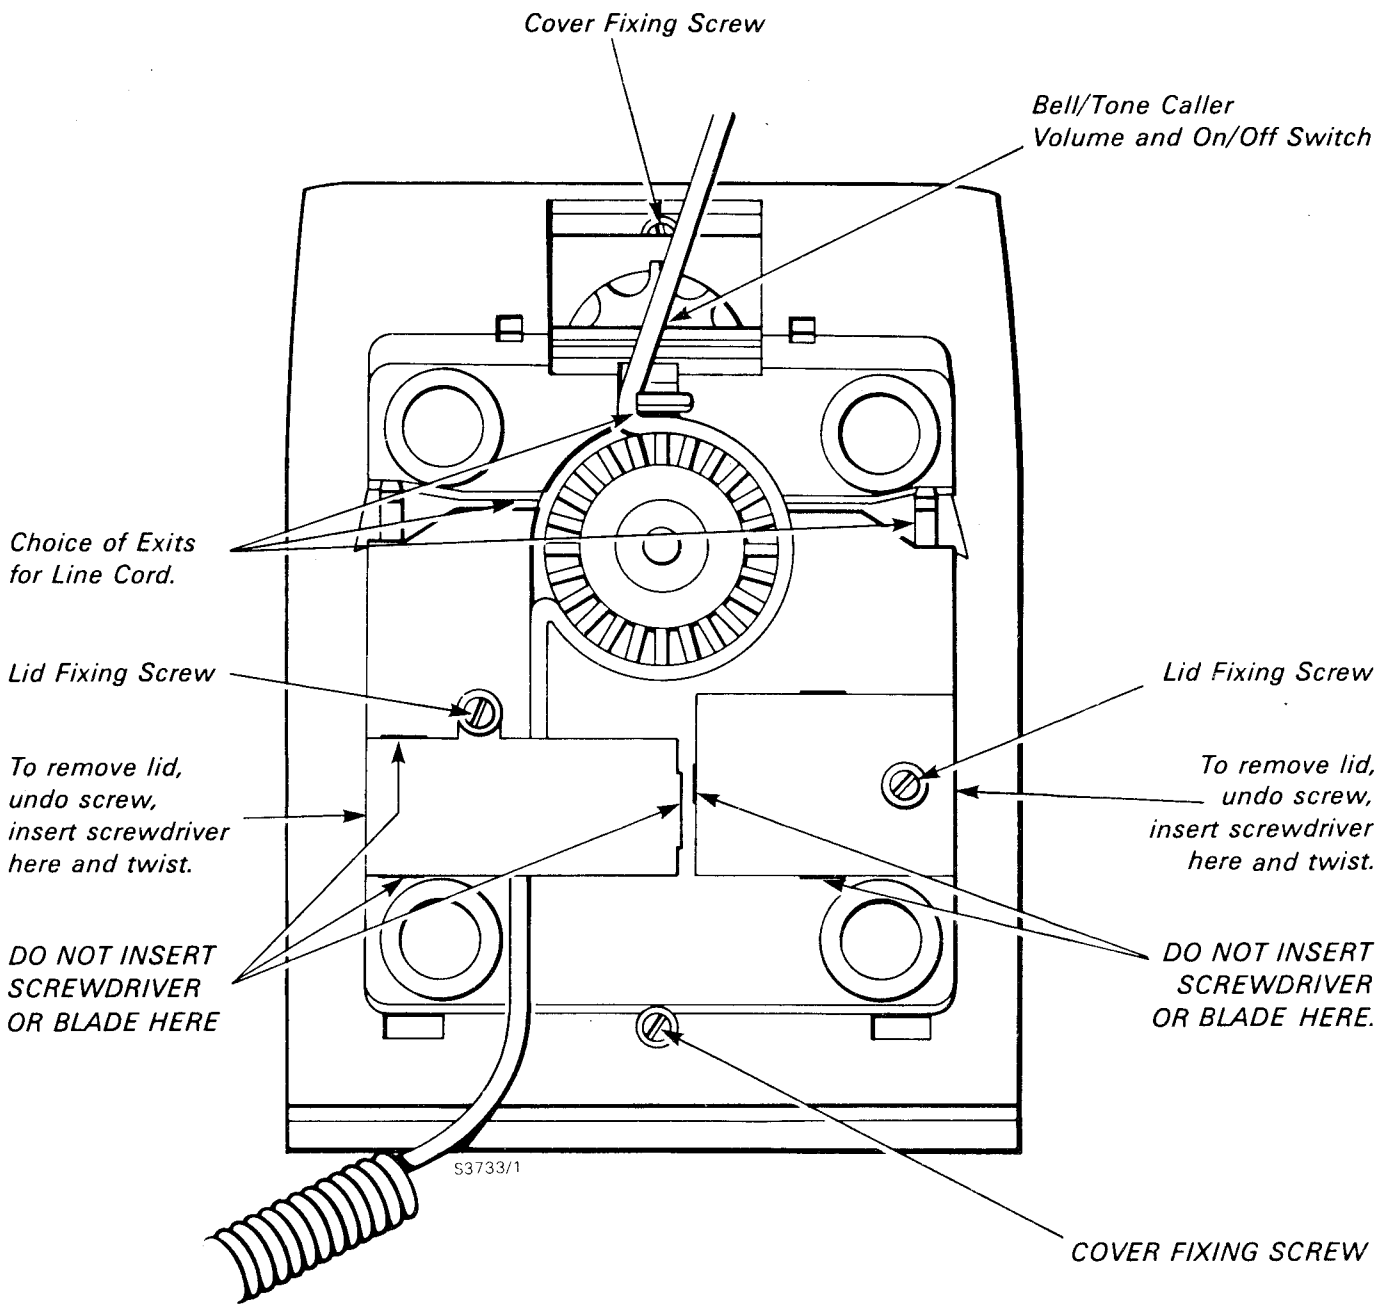
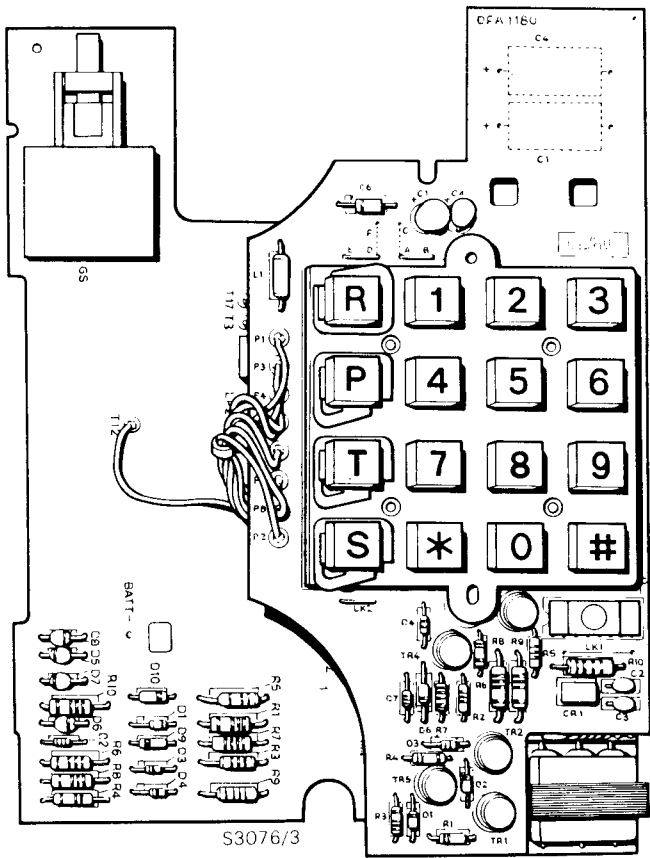

Fig. 19 Base of "Basic" Telephone
Fig. 22 Push Button Unit (PBU) in place on Transmission Board.
The Battery Box and Cord Socket Box lids are snap closures with security screws. To remove the lids first unscrew the captive fixing screw and then insert a screwdriver between the indentation in the edge of the lid and the base of the tele, at the points indicated in fig. 19 Twist the screwdriver to ease off the lid.
When "T-wire" changes have to be made it is first necessary to remove the cover of the instrument (see fig. 19) then to remove the "spider" carrying the Push Button Unit (PBU). Notice it is not necessary to remove the transmission board from the base. Referring to figs. 22 and 23 the PBU is connected to the transmission board by a ribbon cable, the plug of which is keyed to ensure correct location in the socket. The PBU is supported on the spider mounting which clips to the transmission board. They may be separated by gently sliding the signalling board towards the bell and then lifting it clear. It is not necessary to unplug the ribbon cable when separating the boards.
**Dismantling and Reassembly** – Normally maintenance will not need the removal of the telephone cover. If exceptionally this is required refer to page 19 and to figs. 19 or 25.